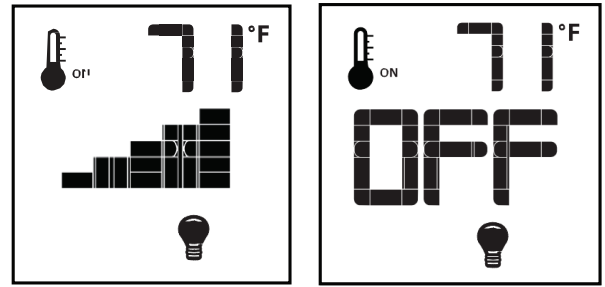

Fig. 97 Dimmer light control
The auxiliary function controls the AUX power outlet by the dimmable light control. To activate this function use the Mode Key (fig. 83) to index to the light bulb icon (fig. 97). The intensity of the output can be adjusted through six (6) levels. Use the Up/Down Arrow Keys (Fig.83) adjust the output level (fig. 97). A single “beep” will confirm reception of the command.